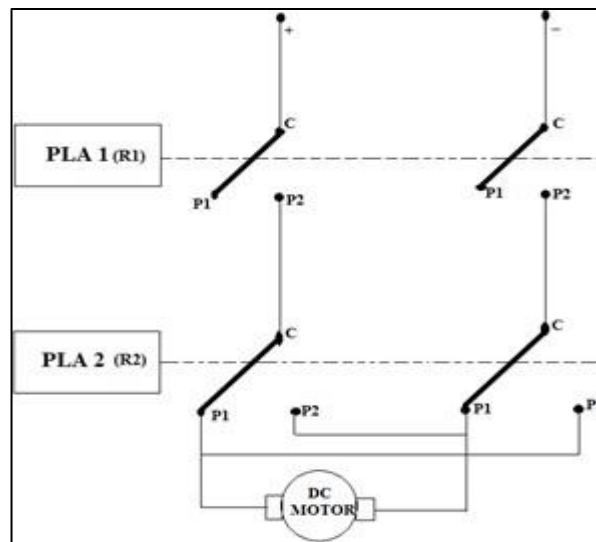

Fig.30 Lift operation logic controller
1. Analyze the lift control which is a form of vertical transportation between building floors for fig.30 using ladder diagram in terms of concepts.